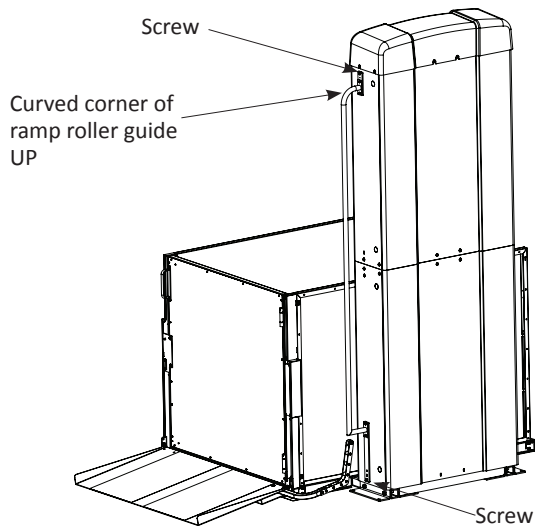

Figure 4-12
4. To install the ramp roller guide, remove the inside top and bottom side panel screws. *See Figure 4-12.*